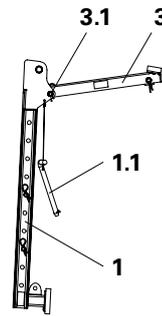
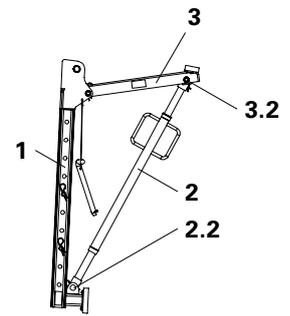
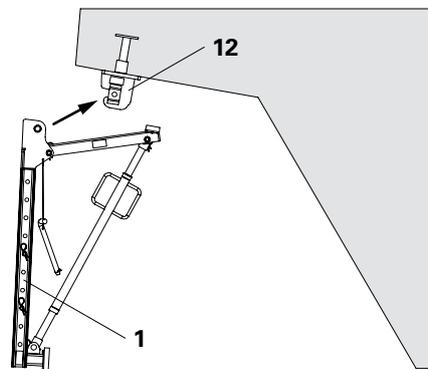

Fig. B1.03a
Fig. B1.03b
Fig. B1.03c
2. Fix Bracket Cantilever VGK 50 (3) to the Bracket Post VGK (1) using bolts and cotter pins. (Fig. B1.03a)
3. Attach pre-adjusted Kicker AV (2) to the Bracket Cantilever VGK 50 (3) using bolts and cotter pins (3.2).
4. Attach pre-adjusted Kicker AV (2) to the Bracket Post VGK (1) using bolts and cotter pins (2.2). (Fig. B1.03b)
5. Attach Bracket Unit VGK (1) to the Suspension Head VGK (12) and secure by means of locking pins $\varnothing 20 \times 260$ (1.1) and cotter pins 4/1.
6. Vertically align the Bracket Unit VGK (1) with Kicker AV (2). (Fig. B1.03c + B1.03d)